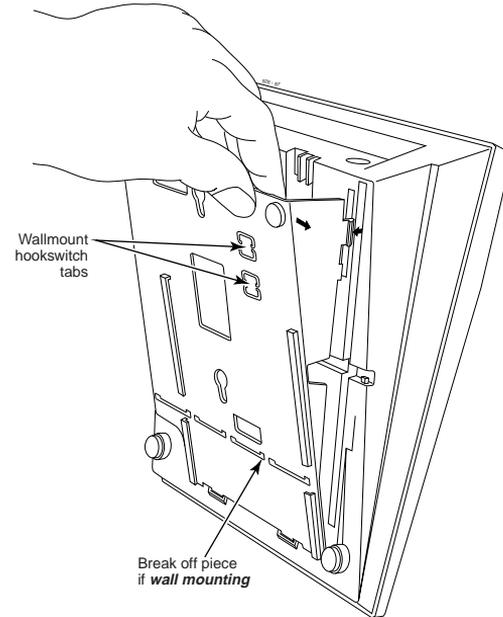

Figure 4-30 INSTALLING THE WALL-MOUNT HANGER (i-SERIES PHONES)
Installing the Wall-Mount Handset Hanger For i-Series Phones (Figures 4-30 and 4-31)
1. Remove the integrated wall/desk bracket from the bottom of the phone. Refer to Figure 4-30.
1. After removing the integrated wall/desk bracket from the bottom of the phone. (Figure 4-30), break off the 1 1/2" section of the bracket as indicated in Figure 4-30 and discard this piece.